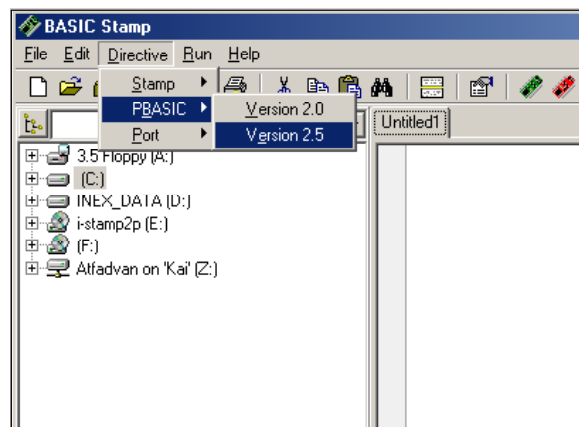

Figure A1-6 Shows "How to select PBASIC2.5 directive".
1.5.3 At Directive menu, select version of PBASIC language by PBASIC à Version2.5 following figure A1-6. Message **{ $\$$ PBASIC 2.5}** appear at third line. Press Enter